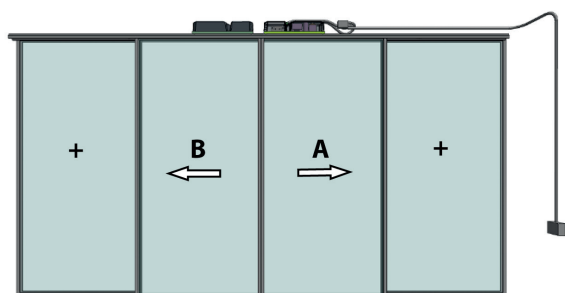

Fig. 12: Two-panels system
In combined systems, system **A** (Fig. 12) is opened first and closed last.
2. Press button (1) «Open» at control element and hold down -> the WHOLE system **A+B** (Fig. 12) opens for as long as the button (1) is pressed.